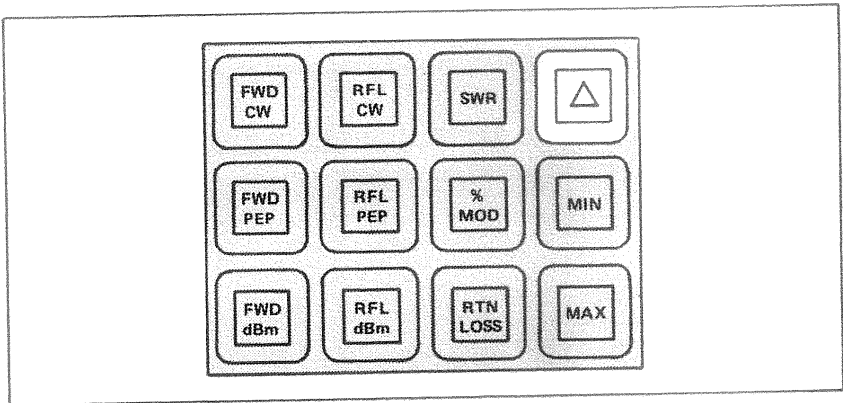

Figure 3-9. Peaking Aid (Δ).
i. Using the Peaking Aid. (Figure 3-9.) The peaking aid is useful for making adjustments to optimize any of the parameters which the series 4380 measures. After the mode is selected, the delta (Δ) key is pressed momentarily. This blanks the least significant digit of the display, and replaces it with right facing arrow head if the measured quantity is increasing and a left facing arrow head if it is decreasing. If there is no change, the digit is left blank. To find a peak, begin making the adjustment in whichever direction produces a right facing arrow head and continue slowly in that direction until the arrow head turns around. At this point the peak has been reached. To check to make sure the peak has not been passed, press the **MAX** key to read the highest value read and release it to read the current value. The two should be the same. Desired minimum levels (e.g. of reflected power or SWR) are found in a similar manner.